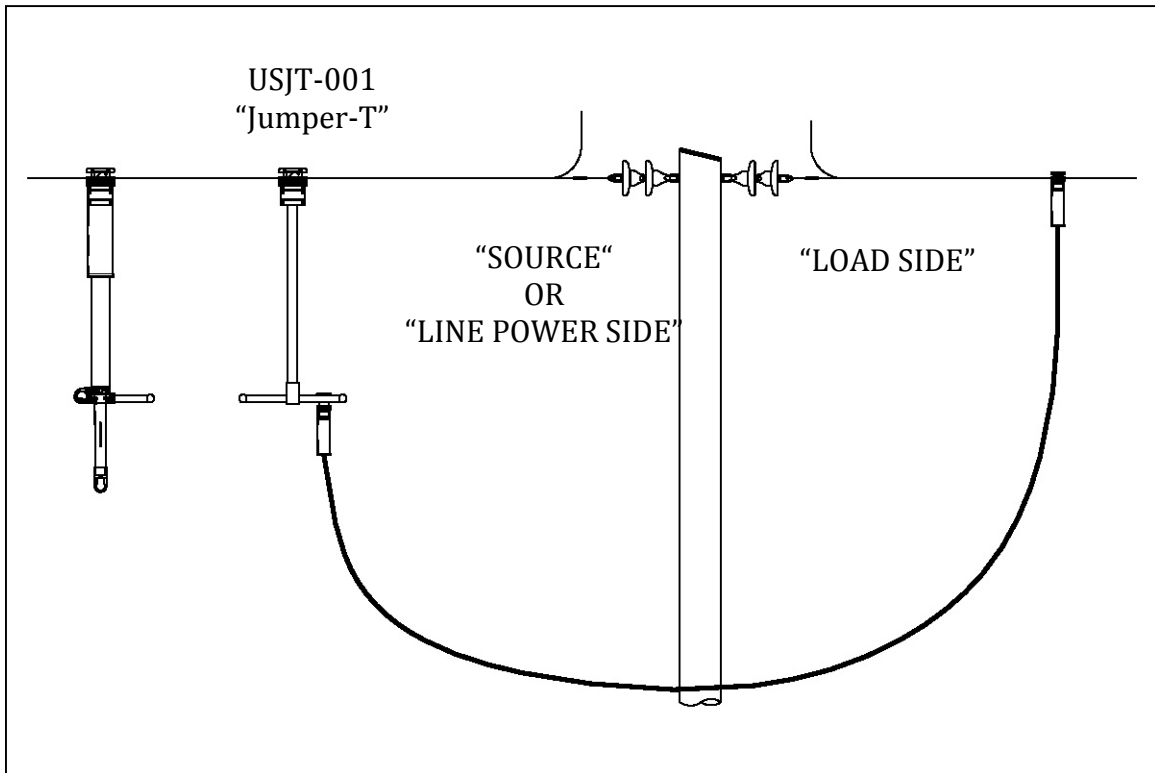

FIGURE 2: USJT-001 Visible Gap / Rated Insulation Configuration for BREAK-SAFE®
15. Place the unattached “LOAD SIDE” jumper cable end on an insulated Utility Solutions “Jumper-T” (USJT-001) or equivalent device (FIGURE 2). This separation constitutes a visible gap for safety.
5. Securely attach the first end of a jumper cable to the non-energized “LOAD SIDE” of the circuit (FIGURE 2) using standard utility safety practices and procedures.